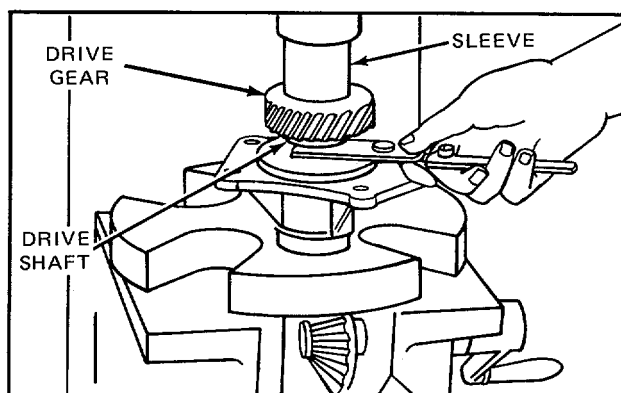

Figure 4. Pressing Blower Drive Gear On Shaft
5. Position the gear on the shaft so the keyway in the gear is in alignment with the key in the shaft. Then place a sleeve on the gear and press the gear on the shaft until the clearance between the gear and support is 0.004 to 0.006 inch (Fig. 4).